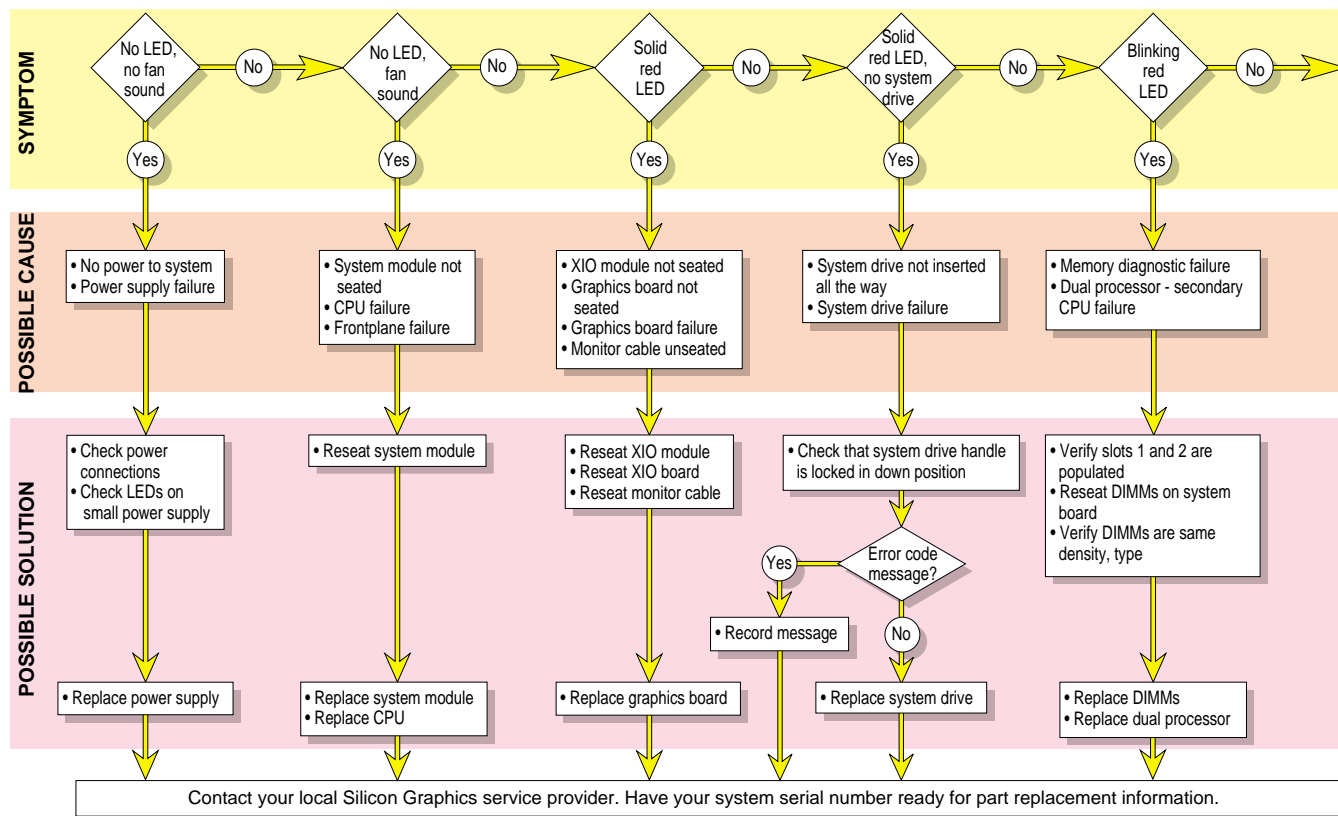

Figure 8-1 Lightbar LEDs - Front of Octane, Diagnostic Chart #1
- Lightbar LEDs - Front of Octane, Diagnostic Chart, Figure 8-1